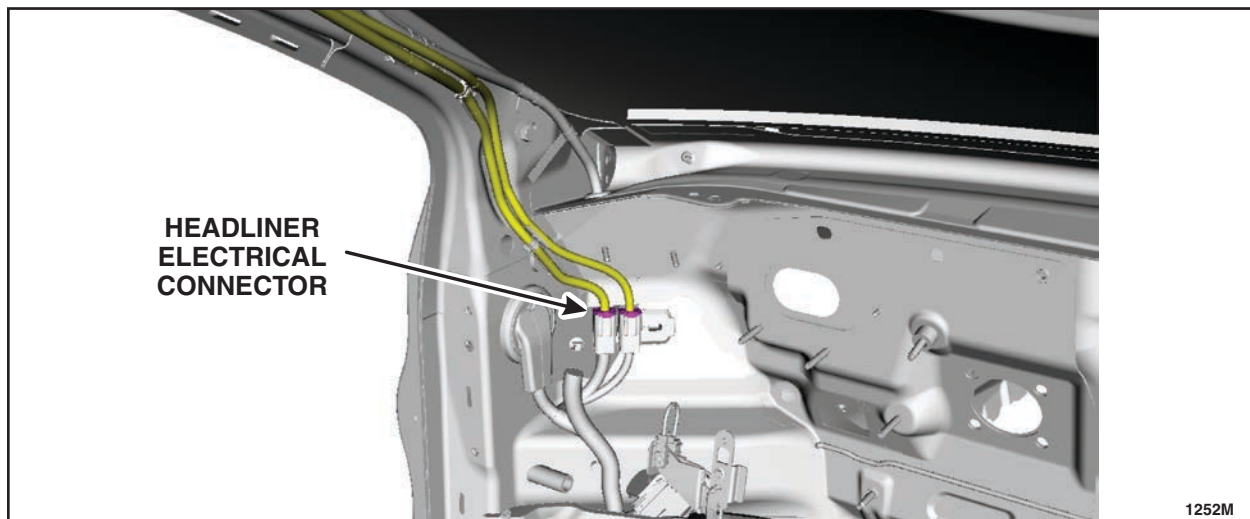

FIGURE 12
22. Disconnect the headliner electrical connector (closest to the LH front door opening) behind the BCM mounting bracket. See Figure 12.
15. Connect the headliner electrical connector behind the BCM mounting bracket location. See Figure 12.